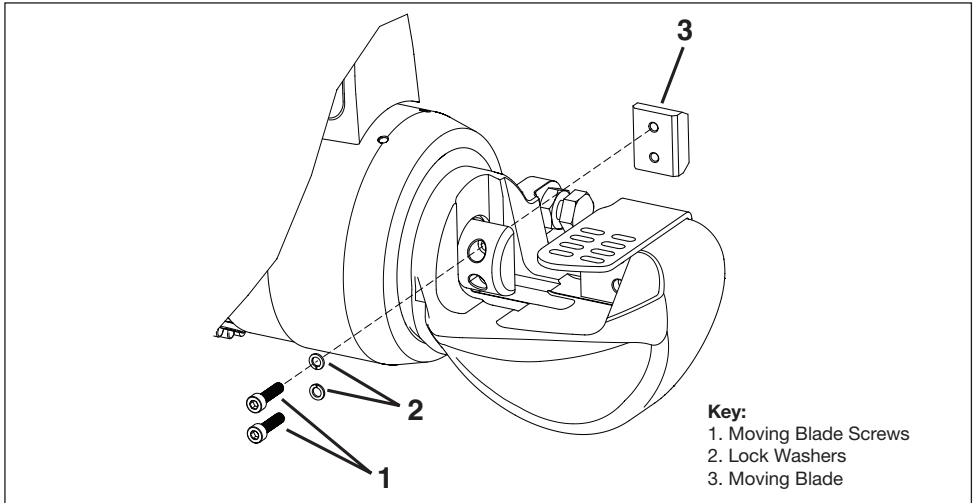

Figure 11, Moving Blade Replacement
Replace the moving blade as described in the following steps. Refer to Figure 11, items 1, 2 and 3.